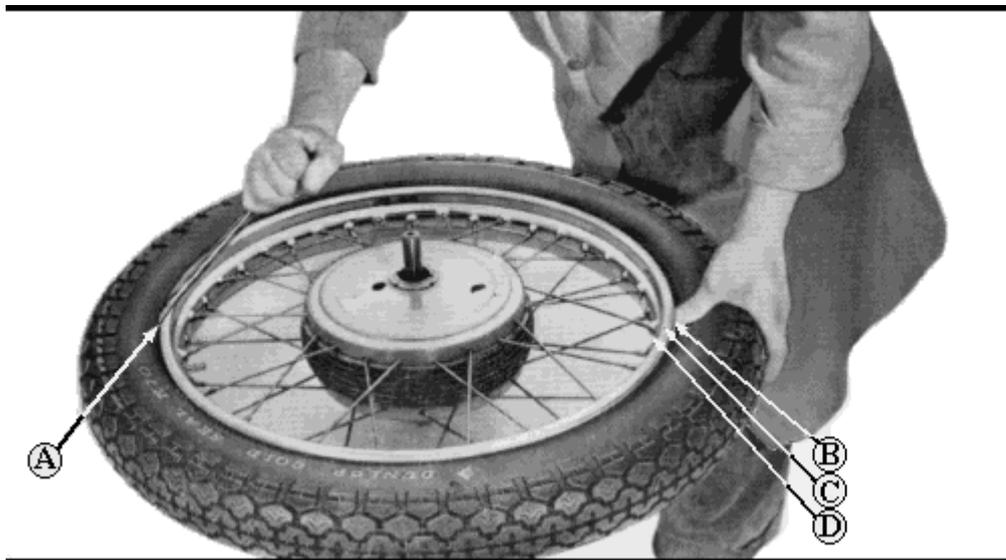

FIG. F11.
It will not be possible to pull the cover bead at (A) Fig. F11 over the rim flange until the cover bead at (B) is pushed off the bead seat (C) down into the well (D). Then the cover bead at (A) comes over the rim flange easily.